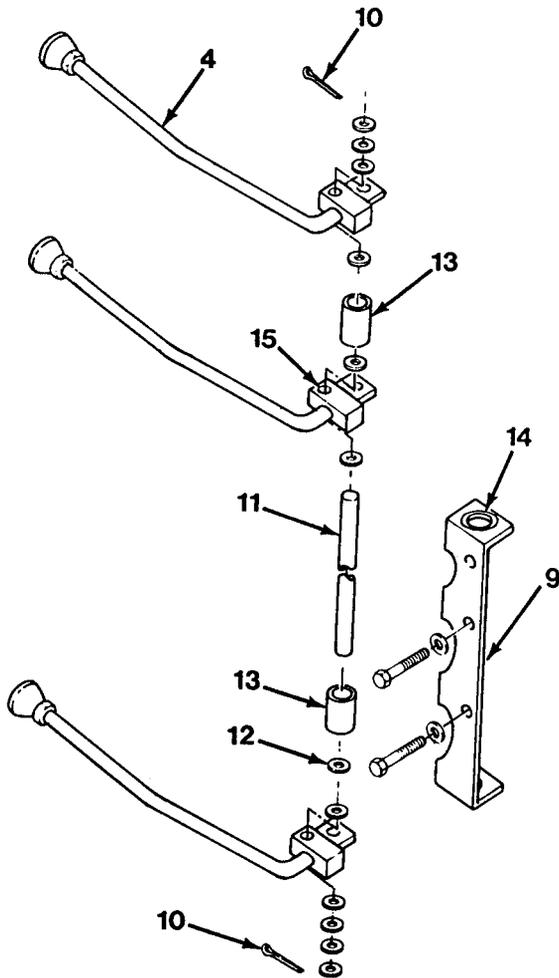

Figure 17-3
1. Remove two cotter pins (10, Figure 17-3).
1. Install bushings (15) in handles (4, Figure 17-3).
2. Install two bushings (14) in bracket assembly (9).
3. Install pin (11) by pushing through bushing (14) and bracket assembly (9). Install two washers (12) on pin (11).
4. Install handle (4) and washer (12).